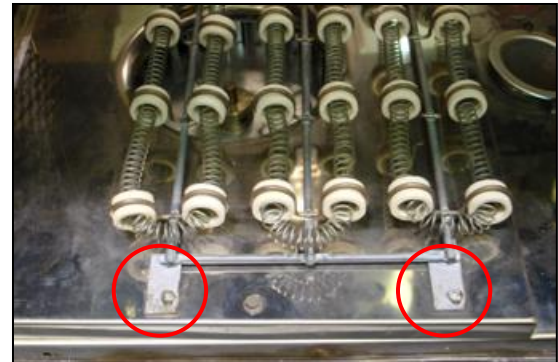

Figure 12. Remove Heater Panel by Removing Screw in Front Edge of Each Panel.
4. Unscrew the screws holding the heater frame to the oven body (Figure 12).